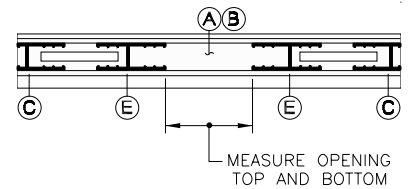

figure 4
8. Measure the door width opening at top and bottom between the In-line Posts (E), as shown in figure 4. Trim top and bottom Dam Strips to the measurements obtained. With high lips toward exterior, position Dam Strips (G) on the Header and Sill and snap them into place.
9. Insert the Door Assembly's Hinge Post (h1) into the Inline Post from which it is to swing, then insert the Strike Post (F) into the Inline Post it will strike (see exploded view - sheet 1). Magnet on door should face toward interior when installed, while magnet on strike post should face toward exterior.